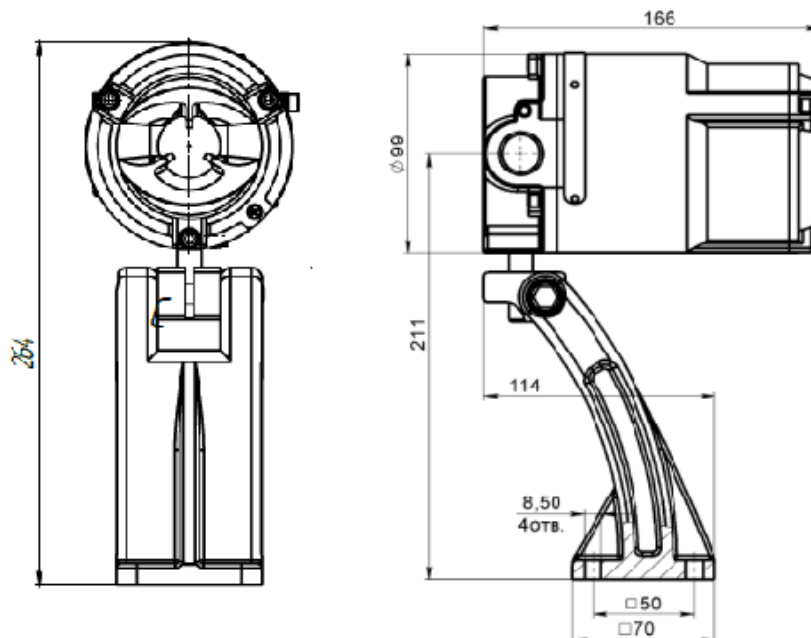

Figure 2 - Overall dimensions of the detector with a mounting bracket
- fix the mounting bracket at the FD 330-4-1 «VEGA» workplace, install a base on it and fix it with a screw and a lock nut. The detector with a mounting bracket and its overall dimensions are shown in figure 2;